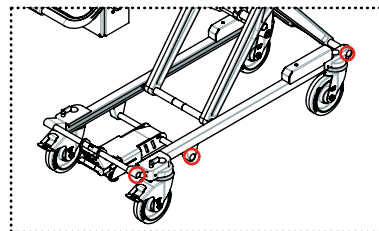

FIGURE 1
- ☐ Check the tightening torque of the screws on both sides of the lower structure (see Fig. 1). The tightening torque must be 19.11 Nm.